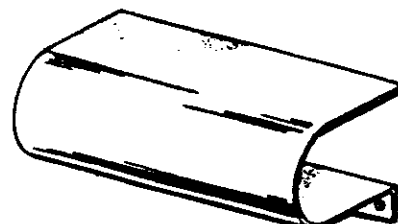

Fig. 20 Phase Crank Shield for 15kV back-connected jaw.
- l. For 15-kV installations and back-connected jaw only, mount the phase crank shield (shown in Fig. 20) over the phase crank shaft assembly at rear end of switch with two 1/4"-20 x 3/4" long round head machine screws and lockwashers, into tapped holes on switch frame.
- This will complete the installation of the right hand pair of barriers as shown in Fig. 20. Repeat steps (a) thru (c) and install the left hand pair of barriers. This will complete the assembly of the four barriers. Note - no spacers are required between the two interphase barriers.